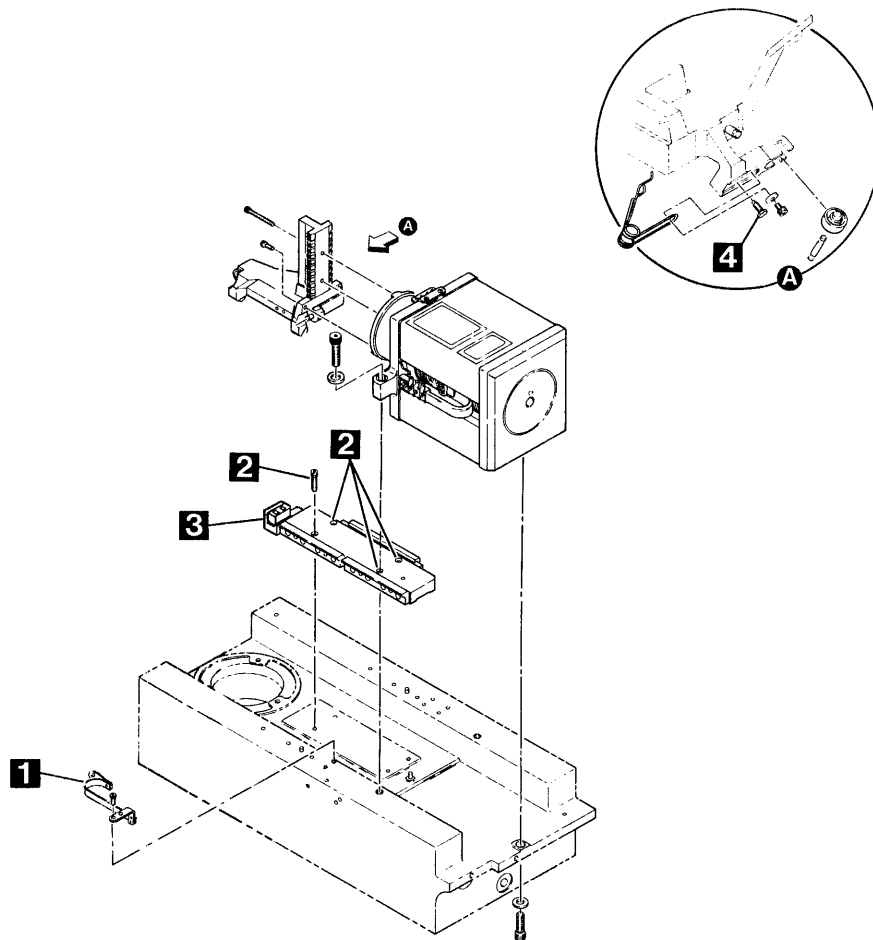

FIGURE 4-19. CARRIAGE T-BLOCK ASSEMBLY AND WAY
4. Referring to Figure 4-19, disconnect carriage ground strap [1] from deck plate.